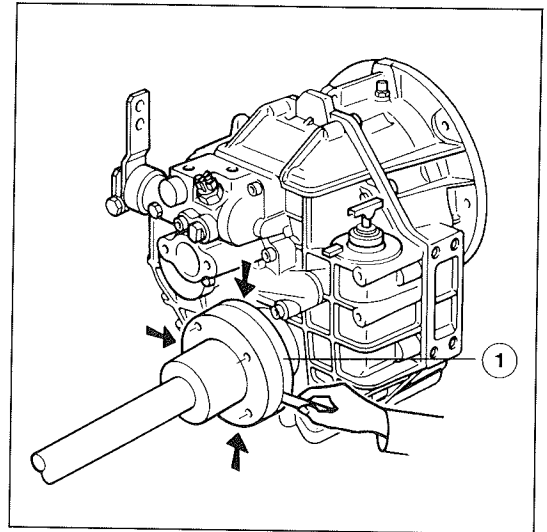

Figure 4
Pull the propeller shaft into the centering of the transmission output flange (Figure 4, item 1) until a clearance remains between the two flange surfaces that permits measurement with a feeler gauge.
With measurements made at four opposite points (see Figure 4), the clearance must not deviate by more than 0.05 mm per 100 mm (0.0005 in. per 1 in.) of measured diameter.